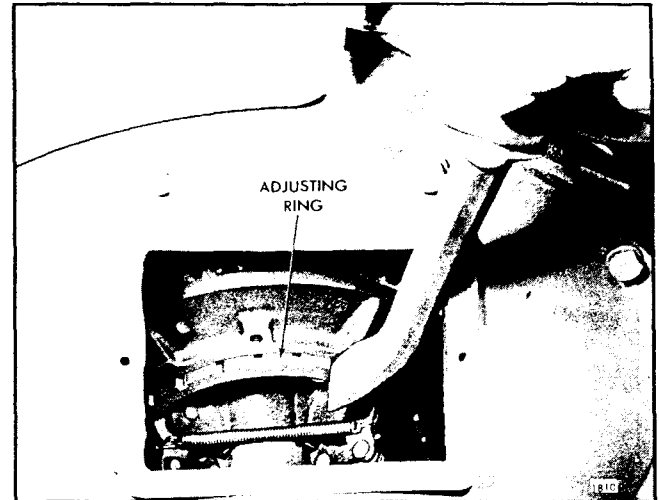
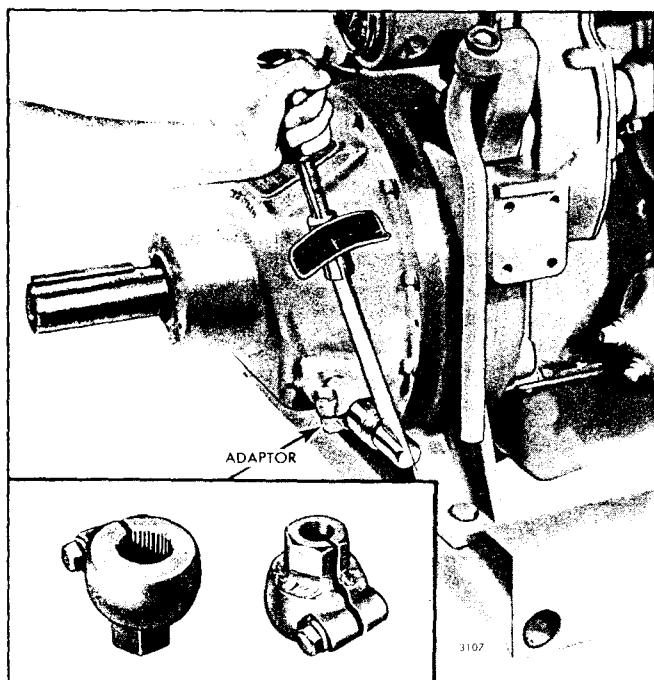

Fig. 3 - Adjusting 8, 10 or 11-1/2 Inch Diameter Power Take-Off Clutch
Fig. 4 - Checking Power Take-Off Clutch Adjustment with a Torque Wrench and an Adaptor
4. Remove the clutch adjusting ring spring lock screw and lock from the inner clutch pressure plate and adjusting ring. Then, while holding the clutch drive shaft from turning, turn the clutch adjusting ring counterclockwise as shown in Fig. 3 and tighten the clutch until the desired pressure on the outer end of the hand lever, or at the clutch release shaft (Fig. 4) is obtained.
However, the most accurate method of checking the clutch adjustment is shown in Fig. 4. To fabricate an adaptor, saw the serrated end off of a clutch hand lever and weld a 1-1/8" nut (across the hex) on it as shown in Fig. 4. Then saw a slot through the nut.